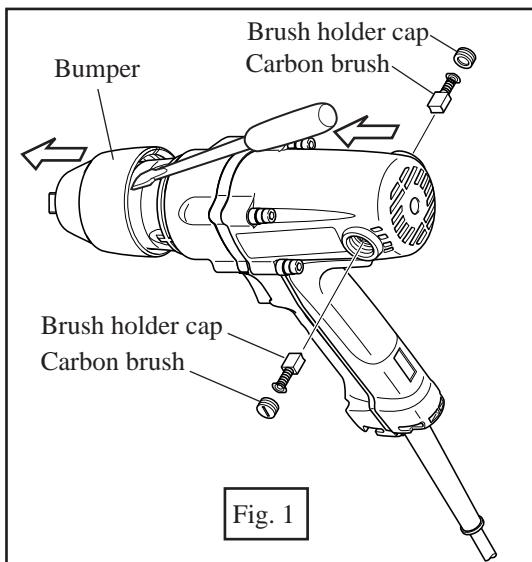

Fig. 1
- (1) After removing brush holder cap and carbon brushes, remove bumper with a slotted head screwdriver. See Fig. 1.